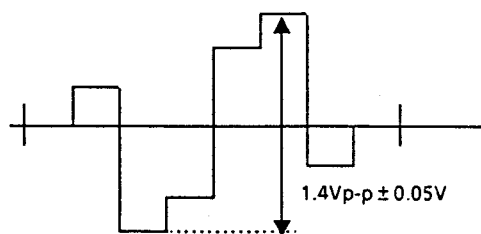

Fig. 4-15
- Keep the connection for step (12).
- Adjust VR9 so that the R - Y signal level becomes 1.4Vp-p $\pm$ 0.05Vp-p. (Fig. 4-15)